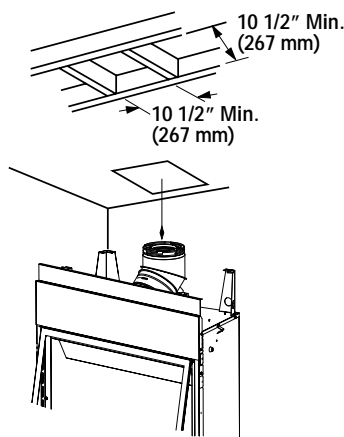

Figure 14
C. Frame ceiling opening - Use a plumb line from the ceiling above the appliance to locate center of the vertical run. Cut and/or frame an opening, 10-1/2" x 10-1/2" (267mm x 267mm) inside dimensions, about this center mark (*Figure 14*).
E. Frame ceiling opening - If the vertical route is to penetrate a ceiling, use plumb line to locate the center above the appliance. Cut and/or frame an opening, 10-1/2" x 10-1/2" (267 mm x 267 mm) inside dimensions, about this center (refer to *Figure 14* on page 11).